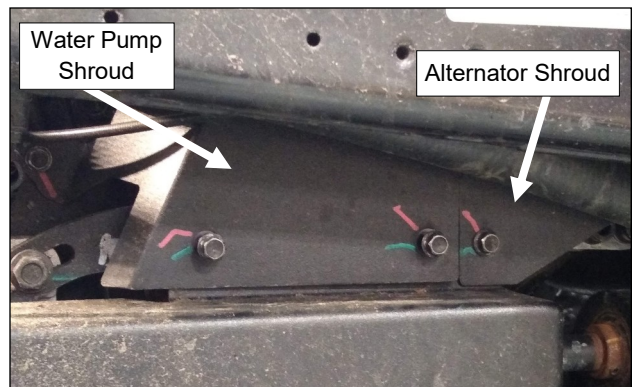

Fig. 9.3 Water Pump Shroud
- 9.3 Per fig. 9.3, install water pump shroud using supplied fasteners listed below. Use metric bolt and washer to secure the rearmost tab found on shroud.